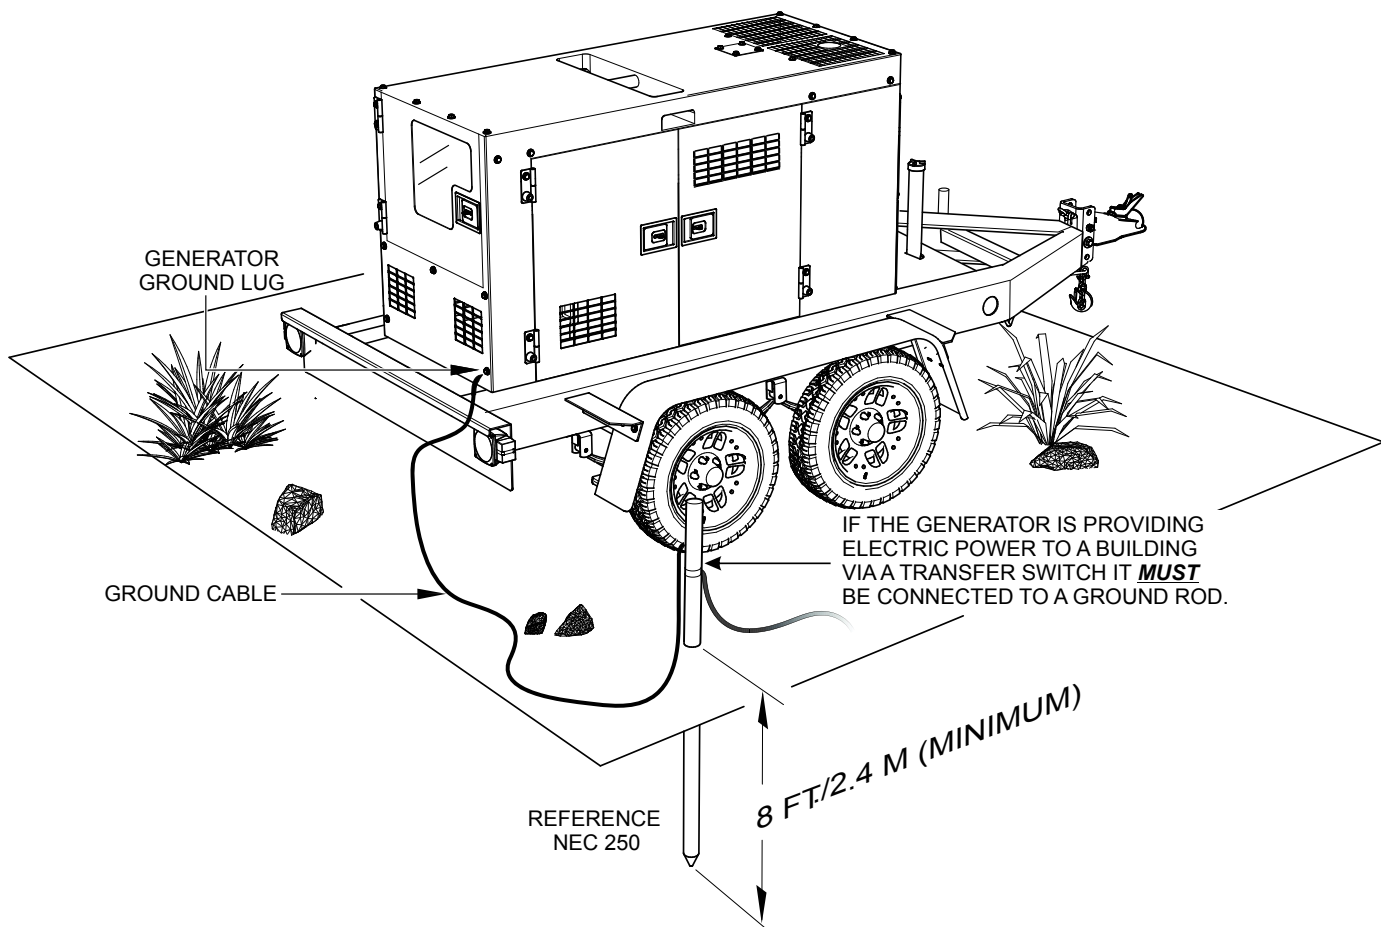

Figure 2. Typical Generator Grounding Application
Connect one end of the ground cable terminal to the generator ground point (Figure 2). Connect the other end of the ground cable to a suitable earth ground (ground rod).
If applicable, to guard against electrical shock and possible damage to the equipment, it is important to provide a good **EARTH** ground, (Figure 2).
2. When grounding of the generator (Figure 2) is required, connect one end the ground cable to the ground lug on the generator. Connect the other end of the ground cable to the ground rod (earth ground).